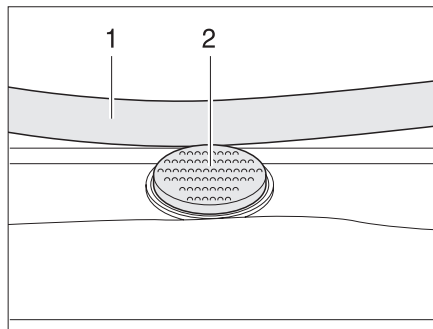

Fig. 55 Safety knob on the Heki skylight
- Press the safety knob (Fig. 55,2) and pull the bar (Fig. 55,1) down with both hands.
- Push the bar upwards with both hands until it is above the safety knob (Fig. 55,2).